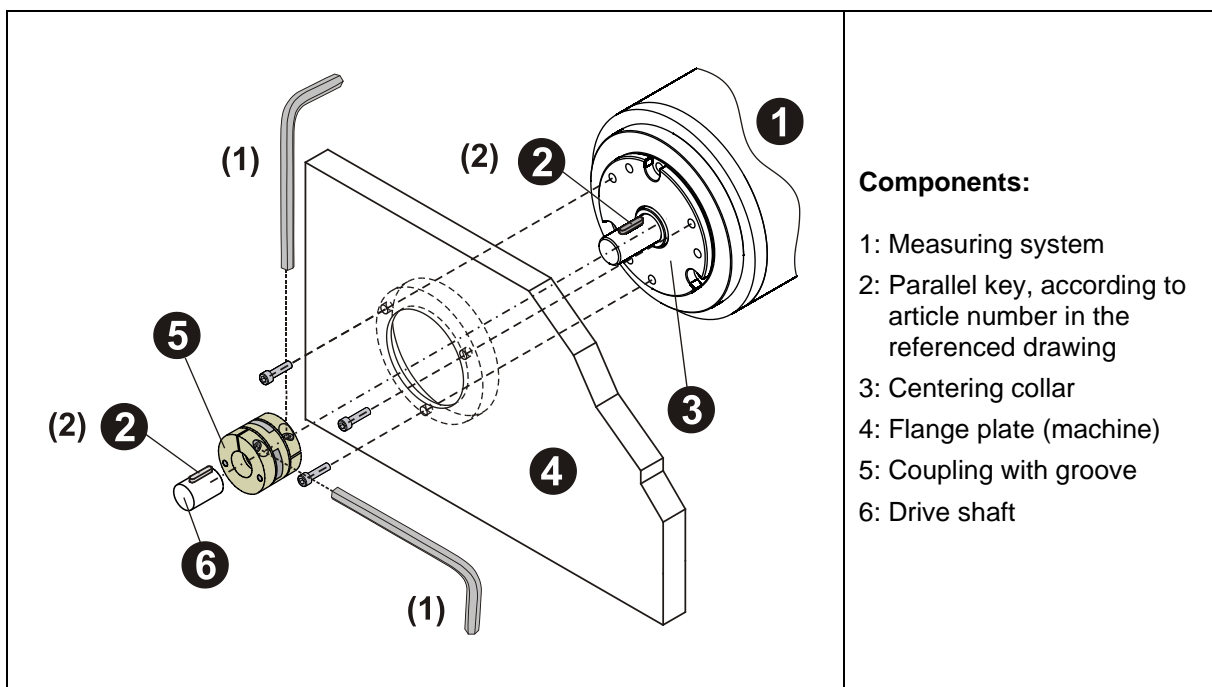

Figure 6: Installing the flange, illustration showing the principle
- Axial slipping of the measuring system on the drive shaft must be prevented by fixing the coupling in position, see Chapter: 5.1.2 Figure 6, (1).
- Radial slipping of the measuring system on the drive shaft must be prevented by a form-locking connection, using a parallel key / groove combination (Chapter: 5.1.2 Figure 6, (2)); a coupling with groove must be used for this purpose.